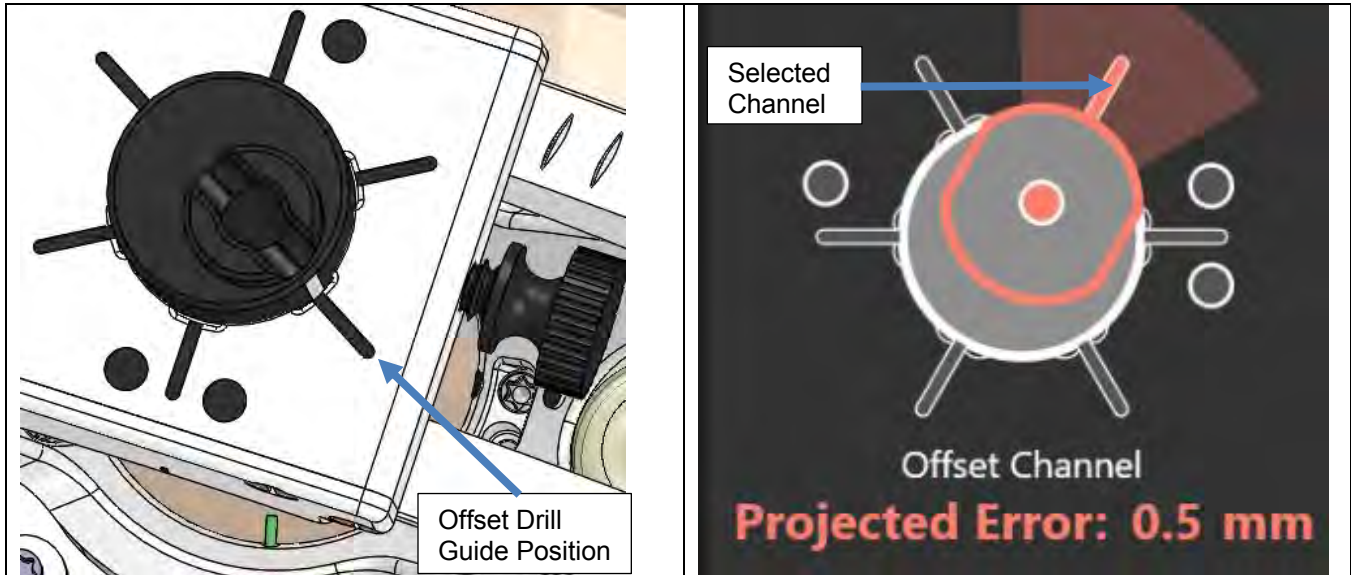

Figure 25: Offset Drill Guide inserted into the position that was selected in the ClearPoint Array Software
5. Verify that the Drill Guide is positioned in the channel selected in the ClearPoint Array software. The orientation dots on the tower match up with those shown on the software. See Figure 25. If it is not, loosen the tower side thumbscrew, raise the Drill Guide and rotate it until the tab (white line) aligns with the correct position. Then, repeat Step 4.